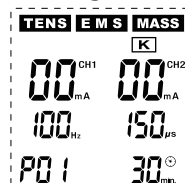

Fig. 12
- ⑰ **(K)**: Special programmes for the **knee joint** (see Fig. 12)